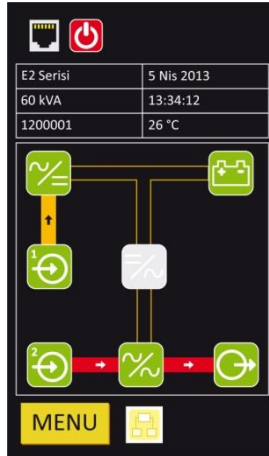

Figure-46 Rectifier Start
- Rectifier unit will start to working. Mimic diagram will be seen as Figure-46.